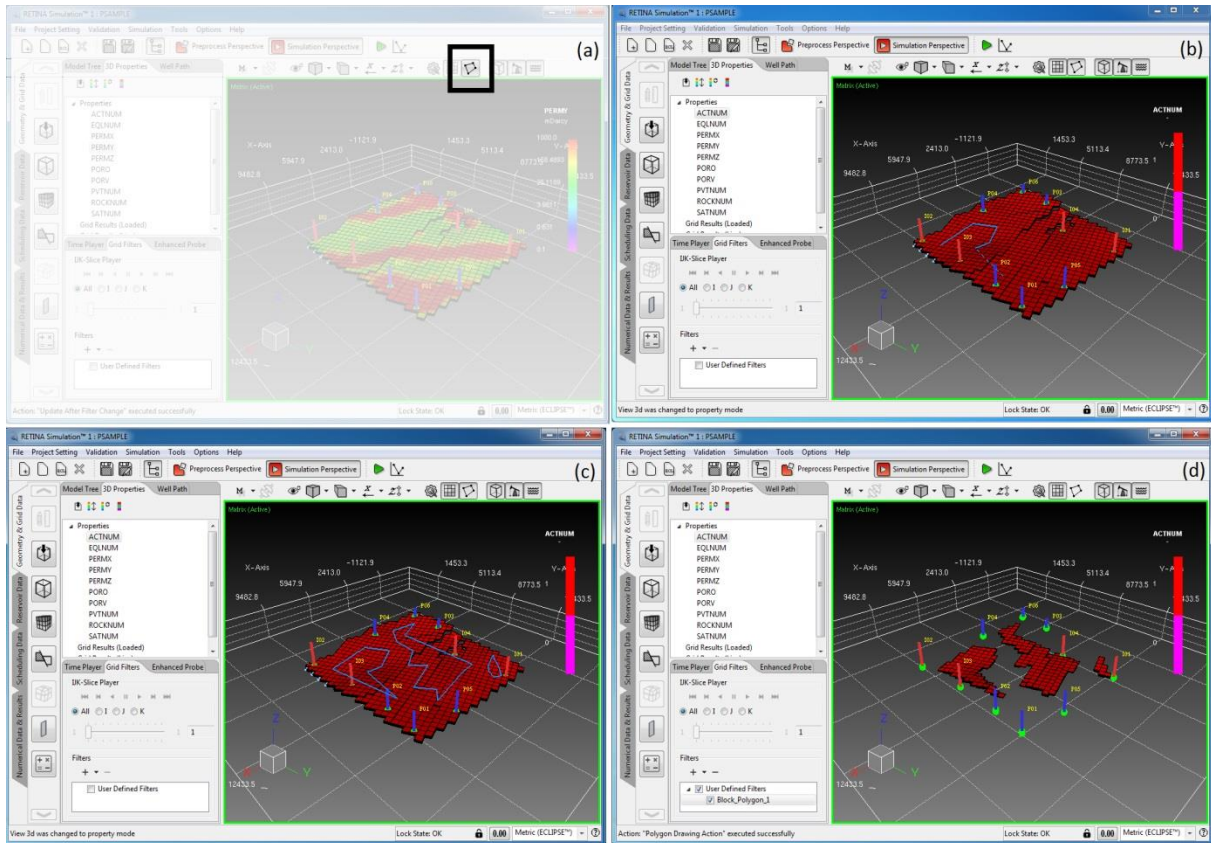

Figure 38 Creating Polygon Filter
3. *Block Polygon Filter*: for creating a polygon filter user must be pick the polygon icon “” from the 3D view toolbar (Figure 38a), and draw polygons by clicking (Figure 38b). User can draw multiple polygons (Figure 38c). Double clicking in each position will close the polygon. After creating all desired polygons, user can make the polygon filter (Figure 38d) using “Add Polygon Filter” which is available in “Filter” section. The name of the “Block_Polygon_###” is assigned to the defined block polygon filter, by default; this name is editable by double clicking on the created filter. If user wants to exit polygon drawing status the “Esc” key must be used. Figure 38 displays the polygon drawing on 3D view.